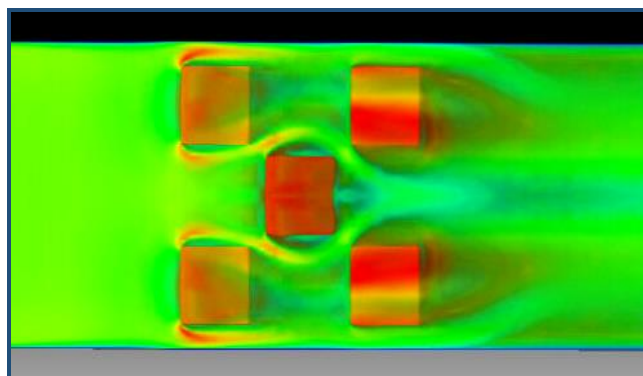

Figure 10.2: Temperature contour from a set of square fins
5. Analyze the results using the Ansys CFD post to get the contour as shown in Figure10.2.